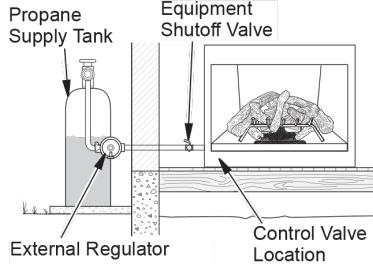

Figure 18 - Checking Gas Joints for Propane Gas
3. Check all joints from gas meter to equipment shutoff valve for natural gas or propane supply to equipment shutoff valve for propane (see Figure 18 or 19). Apply a noncorrosive leak detection fluid to all joints. Bubbles forming show a leak.
4. Check all joints from equipment shutoff valve to control valve (see Figure 18 or 19). Apply a noncorrosive leak detection fluid to all joints. Bubbles forming show a leak.